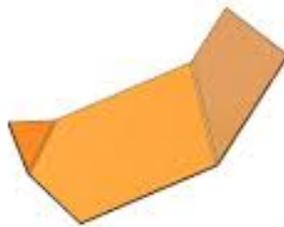

Figure Sheet-4: a bended sheet metal
7. If the desired bending is not gotten, repeat the steps 5 and 6 until get it. See figure Sheet-4.